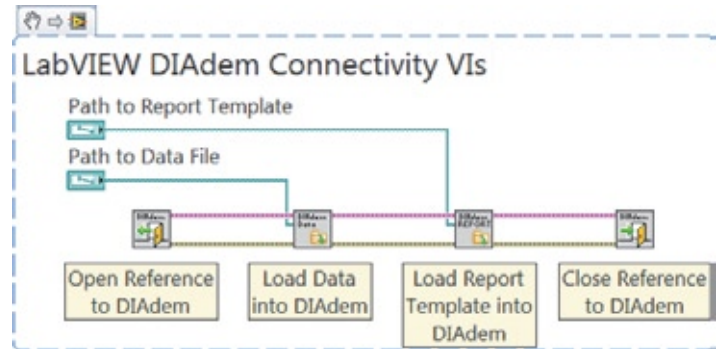

Figure 2. Engineers can automate DIAdem report generation with the LabVIEW DIAdem Connectivity VIs.
The LabVIEW DIAdem Connectivity VIs provide a LabVIEW palette of VIs to easily exchange data with DIAdem and completely automate the DIAdem environment via ActiveX. Engineers can download the VIs for free at [ni.com/diadem](http://ni.com/diadem). This step can be as simple as four VIs, or flexible enough to scale with automation demands. Figure 2 shows the four VIs used to (1) load the application reference to DIAdem, (2) load data from a file into DIAdem, (3) load the report template, and (4) close the DIAdem reference.
Automated reporting is now one step away from completion. Publishing the report can be as simple as using another VI from the LabVIEW DIAdem Connectivity palette. By placing the DIAdem Report Print VI in line with the code in Figure 2, the report is automatically printed when called. Alternatively, DIAdem includes functionality to automatically convert the DIAdem report to PDF or HTML. Engineers can manually enact this step by selecting Export to PDF/HTML from the DIAdem REPORT file menu. However, to automate this step, engineers can use DIAdem SCRIPT to programmatically call the Convert to PDF/HTML option with a single function and use the DIAdem Run Script VI to automate script execution from LabVIEW. The LabVIEW application can scale even further to automatically e-mail the PDF file to a manager or automatically publish the HTML file to the Web.